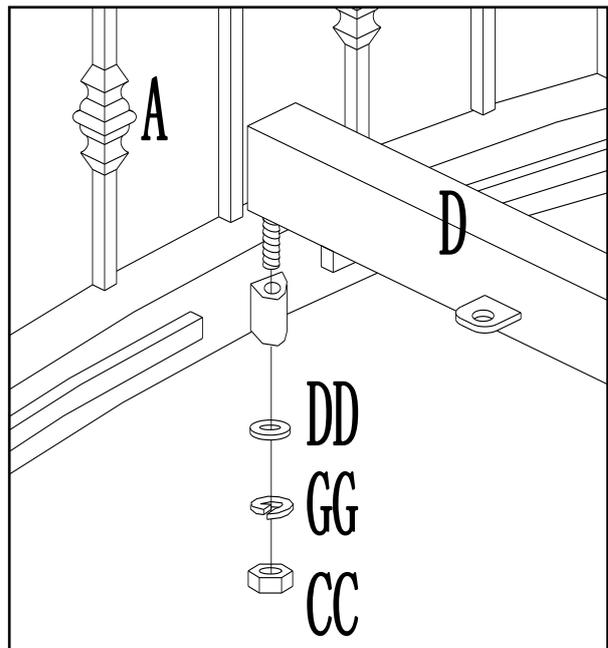

Fig. 2
Fig.2: Attach side panel (C) onto bridge railings (A), then lock the lower part of side panel (C) with flat washer (CC) and nut (DD), then lock side panel (C) onto bridge railings (A) with bolt (AA), spring washer (FF) and flat washer (BB), but do not tighten them at this step.